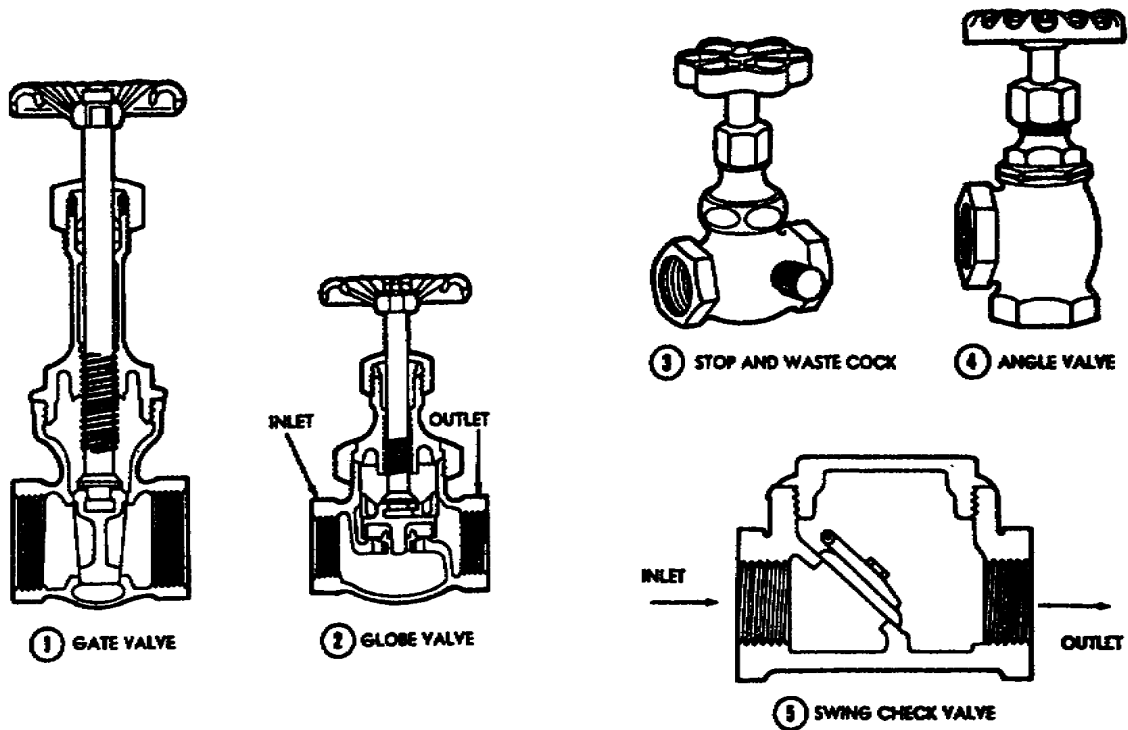

Figure 9, Types of valves.
(1) Gate valve. The gate valve (1, fig 9) has a wedge-shaped movable gate which closely fits the movable seat when the valve is closed. When the valve is open, the gate clears the opening formed by the seat and allows a straight line passage for the flow. To limit wear on the gate and seat, gate valves should be used on lines which remain either completely open or shut most of the time. The valve shown is a rising stem, single disk, gate valve. Other common types are the double disk and the nonrising stem.
(2) Globe valve. Outwardly, a globe valve (2, fig 9) looks like a gate valve but inside it is made quite differently. Partitions block the flow through the valve; and the seat, which is at right angles to the direction of flow, changes the direction of flow. The horizontal seat is a ground joint against which a replaceable fiber or metal disk or washer at the end of the stem makes a tight fit. Globe valves are used where adjustment of rate of flow is needed. Globe valves with fiber disks are suitable for all kinds of service except on steam lines, where a metal disk is preferred. A globe valve should be set in the line so that the inlet side will carry the pressure when the valve is closed.
(3) Stop and waste valve. This valve (3, fig 9) is similar to the globe valve except that it has a small drain opening on the outlet side of the valve body which can drain the line when the valve is closed. This valve is used in lines which may freeze if they are not drained in winter.
(4) Angle valve. This is a globe valve with inlet and outlet at 90 to each other (4, fig 9). It controls the flow and changes the direction of a line.
(5) Check valve. A check valve (5, fig 9) checks or prevents reversal of flow in the line. The one shown is a swing check. Other types are the disk check, ball check, and adjustable check.
(6) Other types. Other types of valves include pressure reducing valves and pressure or temperature relief valves.